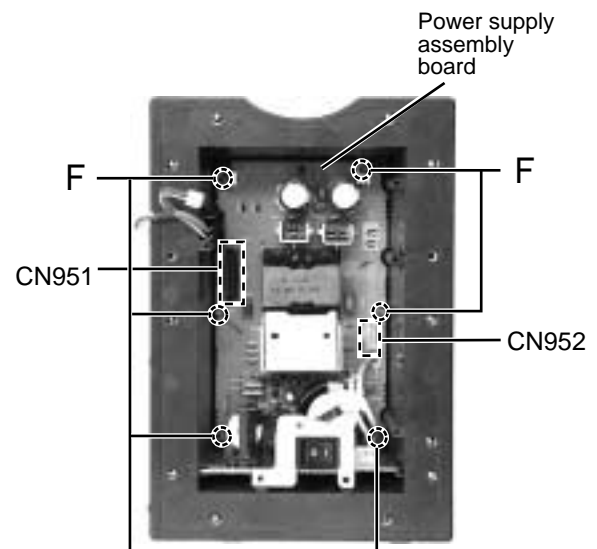

Fig.6
■ **Removing the power supply assembly board (See Fig.6)**